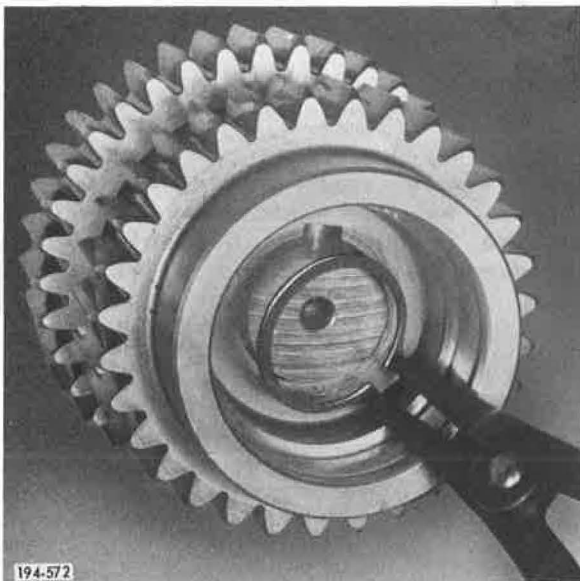

Figure 141. Removing Snap Ring
3. Remove countershaft gear retaining snap ring, using snap ring pliers J-6435, or equivalent. See Figure 141.